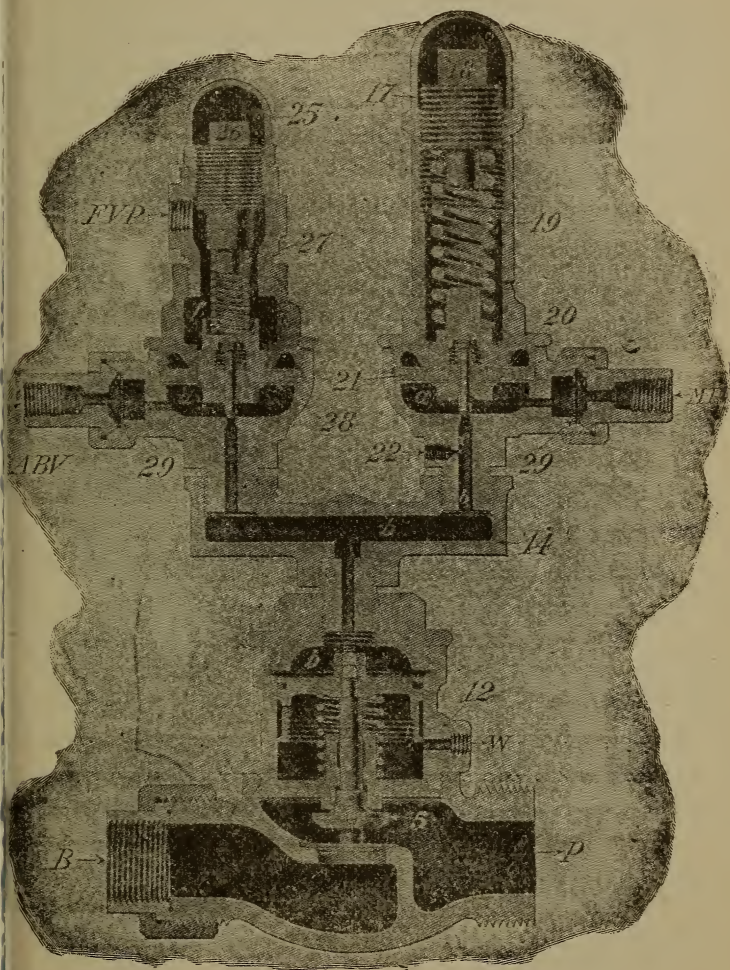

Fig. 7—The SF-4 Pump Governor.
A. It consists of a standard steam portion, with Siamese fitting, and two diaphragm portions, as illustrated in Figure 7.
A. As chamber *b* is always open to the atmosphere through the small vent port *c*, the air pressure in chamber *b* above the governor piston 6 will then escape to the atmosphere and allow piston spring 9, and the steam pressure below valve 5 to raise it, and the governor piston 6 to the position shown. See Figure 7.
comes slightly reduced, the spring 19 forces diaphragm 20 down, seating its pin valve. As chamber *b* is always open to the atmosphere through the small vent port *c*, the pressure in chamber *b* above the governor piston 6 will then escape to the atmosphere and allow the piston spring 9 and steam pressure below valve 5 to raise the valve and governor piston to the position shown. See Figure 7.